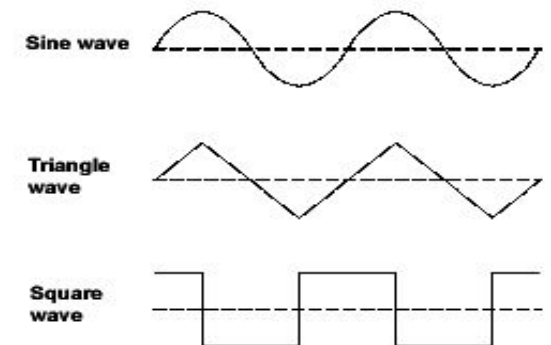

Figure 3-1
- (1) Press one of the three buttons【】，【】，【】to select the desired output waveform.
- (2) At the moment, the main output terminal **【OUT】** and the power output terminal **【PA OUTPUT】** will output the selected waveform (the power output terminal will be closed in frequency range 7).
- (3) The phase-relation of output waveform shown in Figure 3-1.